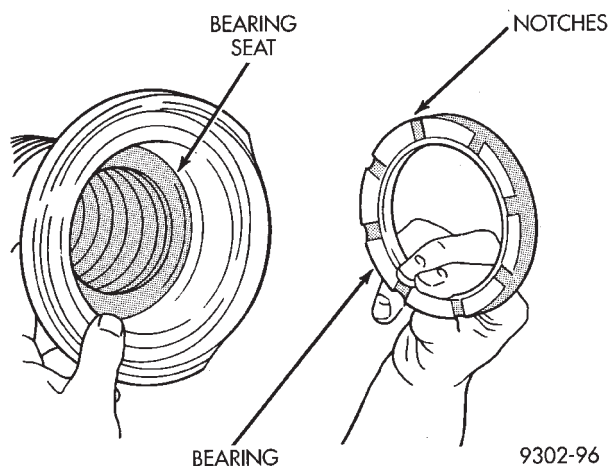

Fig. 8 Bearing Installation Into Seat
(3) Install the strut bearing into the bearing seat (Fig. 8). Bearing must be installed into seat with notches on bearing facing down (Fig. 8).